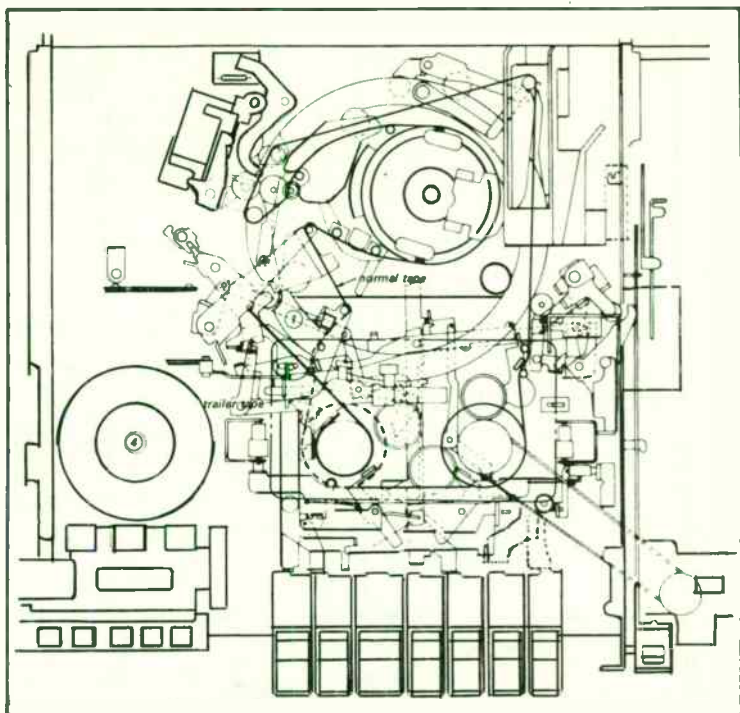
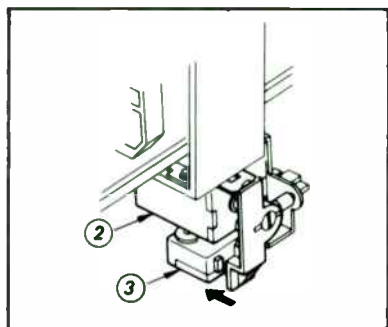

Fig. 5-2. Tape sensing mechanism and machine shut-off.
Fig. 5-3. Microswitch assembly.
In the record, play or fast forward modes, the trailer tape appears at the end of the video tape on the supply reel. The sensing head senses the trailer tape when it passes the sensing head, signalling that all the video tape has been taken up. Refer to Fig. 5-2.
enoid (2) on the button block assembly is energized and a function button is released. At the same time the microswitch (3) is pushed by the stop solenoid (2) when the stop solenoid is energized and the microswitch (3) is turned-off, the ac motor stops. Refer to Fig. 5-3. The stop of the ac motor makes the rotation of the take-up reel stop and the tape movement stops without being wound further. If the play or the fast forward button is depressed in this state, the safety mechanism functions in such manner that the tape is not wound because the sensing head senses the trailer tape immediately, the stop solenoid (2) is energized, the microswitch (3) turns off, and the ac motor (4) does not rotate. See Figs. 5-2 and 5-3.